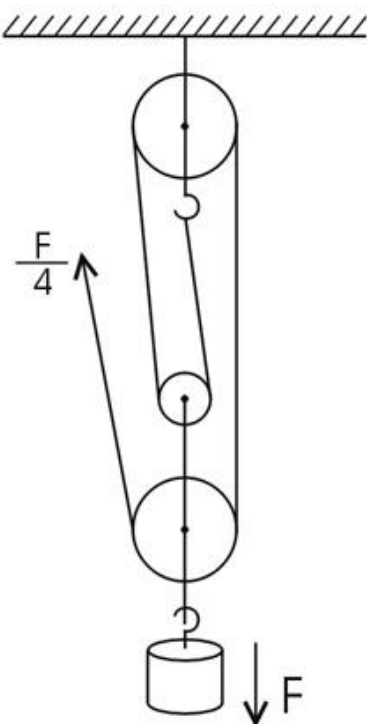
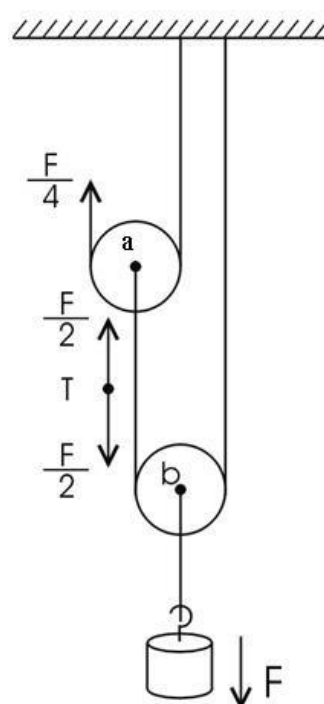
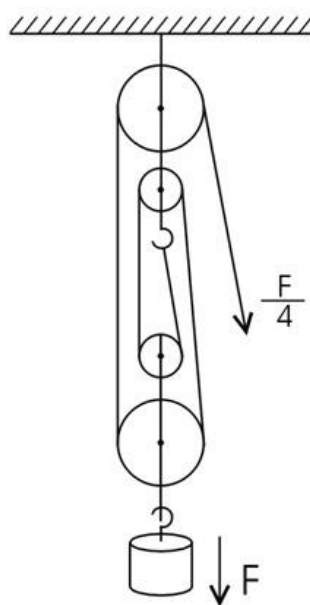

Figure 7
Figure 8
Figure 9
1. Set of single and double pulleys: As shown in **Figure 7**, fix the single pulley on the wall to become a fixed pulley. Circle ropes around pulleys. Based on features of movable pulleys, the effort of this pulley set is a quarter of the resistance so the function of this pulley set equals to the pulley set in **Figure 8**. The design on **Figure 7** can lift the object to the highest place. On the design of **Figure 8**, when pulley a is at the highest position, pulley B can only reaches half of the height.
2. Set of two double pulleys: As shown in **Figure 9**, fix a double pulley on the wall to become a fixed double pulley. The structure of the set is similar to **Figure 7** but with one extra fixed pulley to change the direction of applied force.